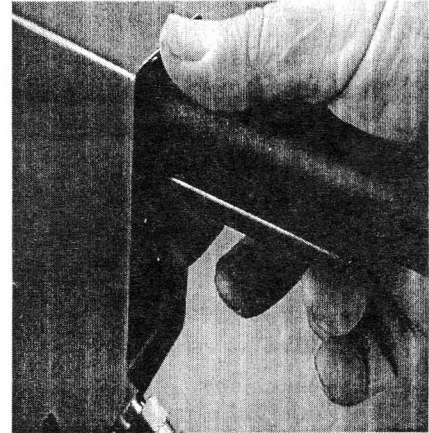

Figure 3
5. The safety "lock-out" lever is located underneath the right side handle grip and switch lever. To unlock the "lock-out" lever use your right hand fore finger to press the lever down toward the back of the switch box. (Figure 3)